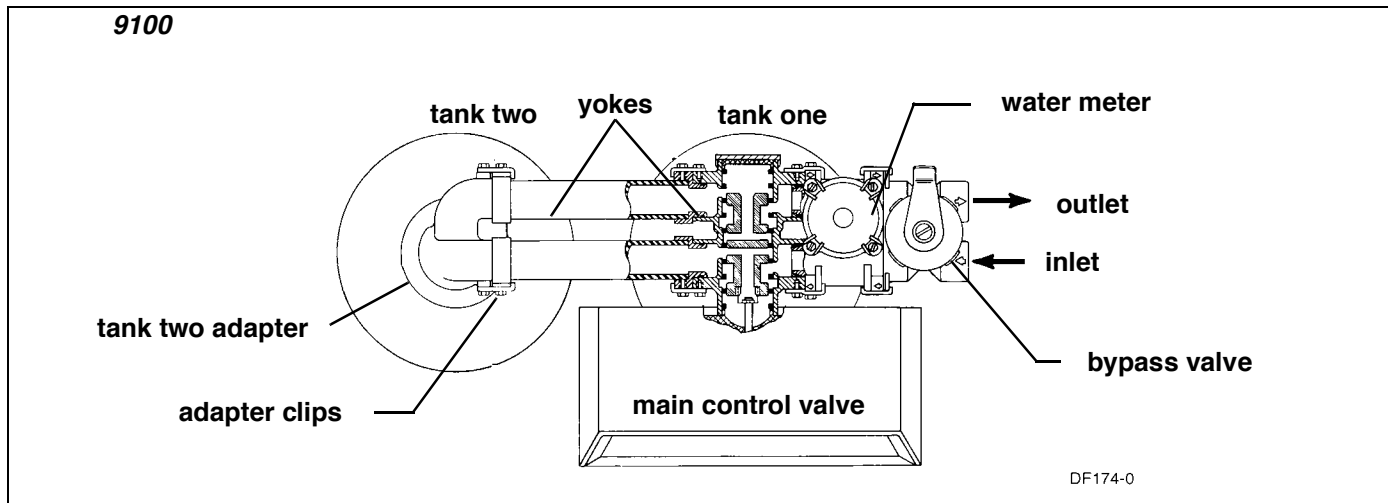

Figure 1: 9100
14. Tank one has control valve and tank two has adapter. See Figure 1, page 4.